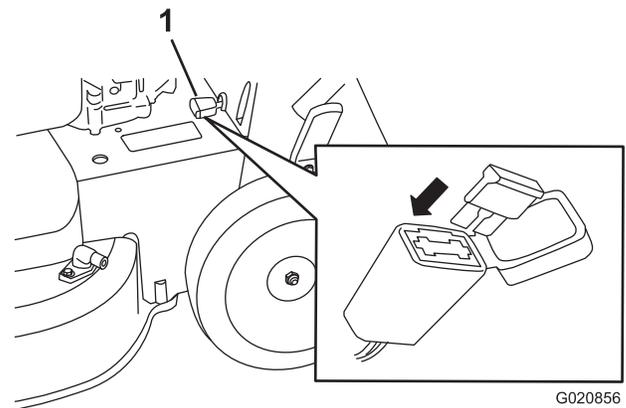

Figure 36
1. Open the sealed fuse holder and replace the fuse (Figure 36).
7. Remove the rear-deflector and handle-lock lever assembly (Figure 36).